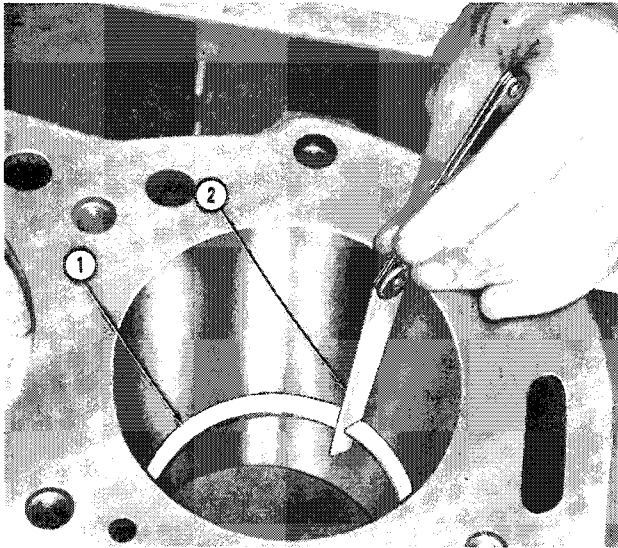

Figure 51
3. Check the piston rings for minimum gap prior to installation in the relevant cylinder, Figure 51. Use a piston crown to squarely locate the ring in the bore. New rings should be checked for side clearance in the piston as previously described in this Chapter.